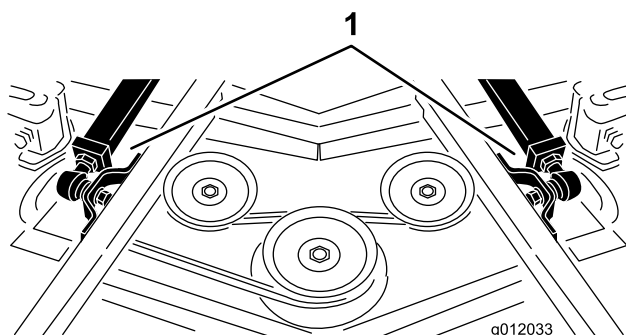

Figure 6
8. Lower deck. Remove bolts, washers and locknuts securing each lift arm ball joint mount to cutting unit castor arm tube (Figure 6).